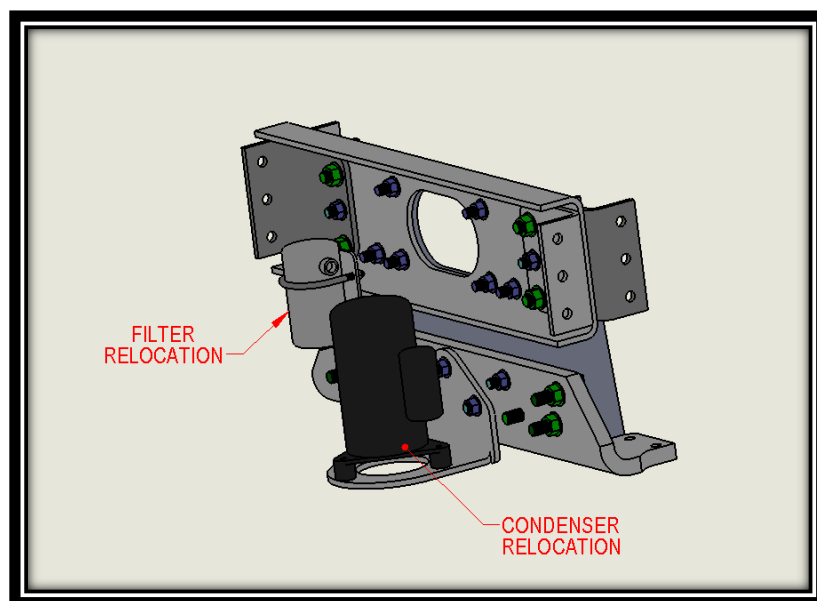

FIG. 13-2
25. If equipped remount AC filter and condenser as shown below. Refer to FIG. 13-2.